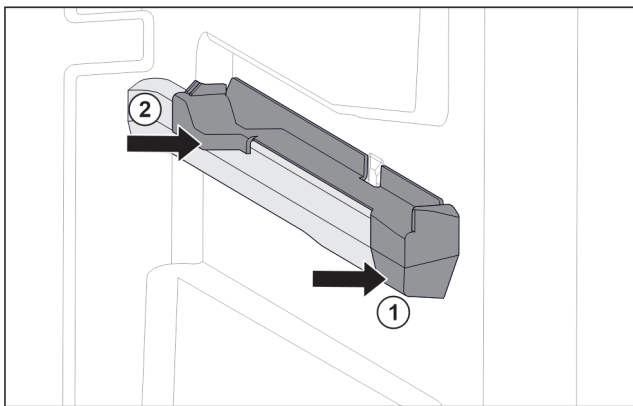

Fig. 124 Attachment on the right moulded rib
- ▶ Position attachment on moulded rib at the front. *Fig. 124 (1)*
- ▶ Press on attachment at the back. *Fig. 124 (2)*